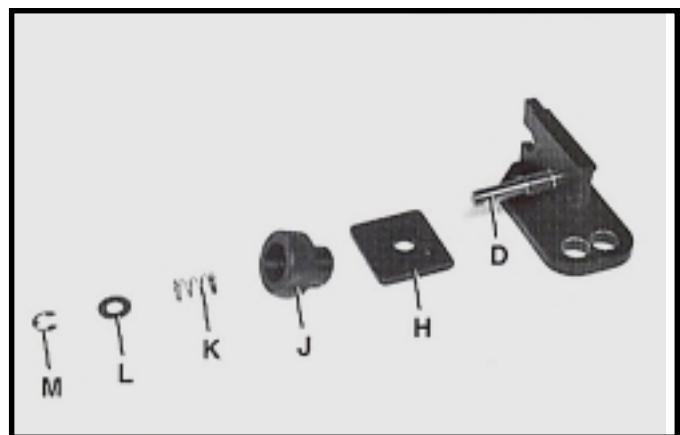

Fig. 15
12. Loosely assemble plate (H) Fig. 15, knob (J), spring (K), flat washer (L) and E-ring (M) onto stud (D) as shown assembled in Fig. 16.